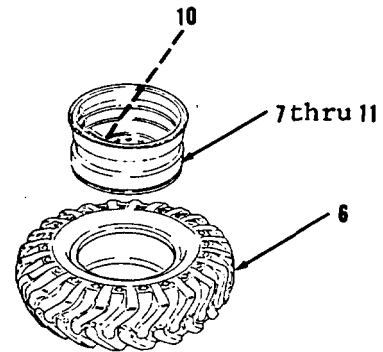

Figure 7-2.
7. Attach hoist and sling to items 6 thru 11 as an assembly, lift up, turn over and lower to work area with inside of wheel facing upward. Remove hoist and sling.
8. Using sledge hammer, remove items 7 thru 11 as an assembly from tire (6) and set down on work surface with stem (10, Figure 7-2) facing upward.